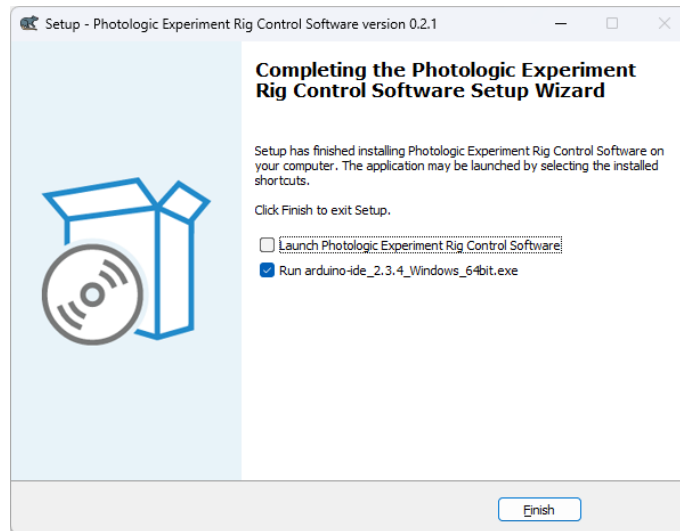

Figure 6: Do NOT Run the Control Software, but DO Run the Arduino Installer.
5. **Run the Arduino Installer** - When the installer has finished, if you have selected to install the Arduino IDE you will see a screen like that in Figure 6. Make sure you have 'Launch Photologic Experiment Rig Control Software' **unchecked** and run the Arduino IDE setup. Inside of the Arduino installer, you can proceed through the installer without changing any defaults. Once the installation is finished, run the Arduino IDE.